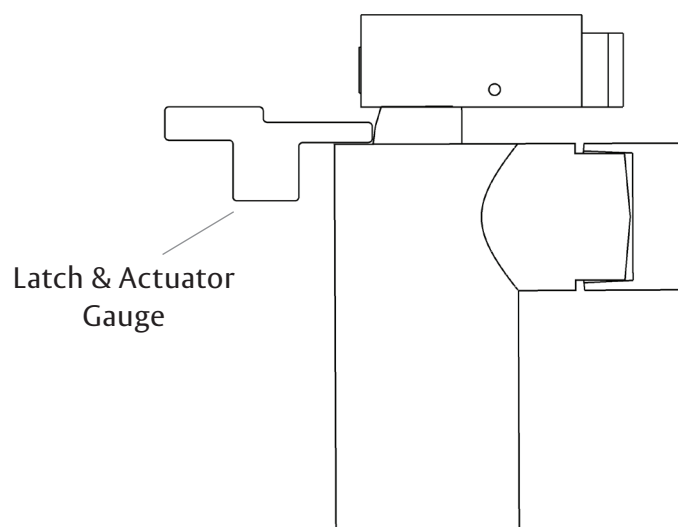

Figure 5-2
- If the Gauge has any play, adjust the Strike by adding shims. Refer to Figure 5-2 for the minimum engagement.